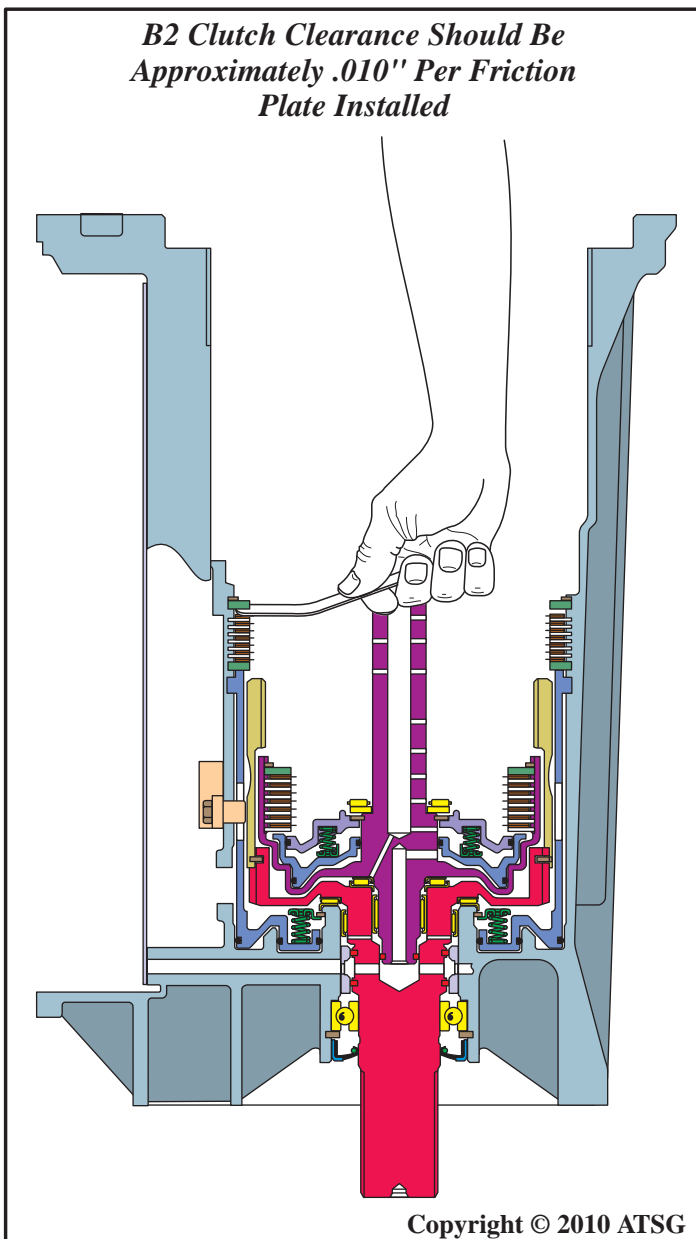

Figure 206
11. Measure the B2 clutch clearance using a feeler gauge between the backing plate and friction plate, as shown in Figure 206.
12. B2 clutch clearance should be approximately .010" per friction plate installed, as shown in Figure 206.